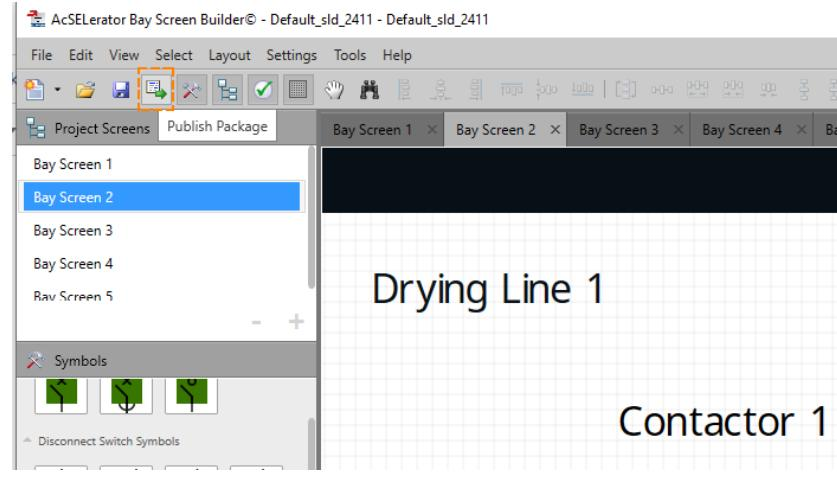

Figure 8.81 Publish Package Button
Step 7. To load the custom diagram in to QuickSet, select **Publish Package** indicated by the orange box next to the save icon in *Figure 8.81*.